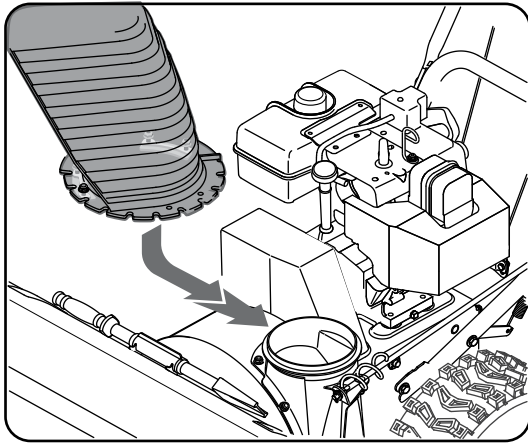

Figure 3-4
1. Remove lock nuts and screws securing one of the flange keepers to the chute assembly. Loosen the fasteners of the other two flange keepers. See Figure 3-4.
- Place chute assembly onto chute base as shown in Figure 3-4. Make sure that the chute notches engage with the spiral end of chute directional control, and the two flange keepers are beneath the flange on the chute base.